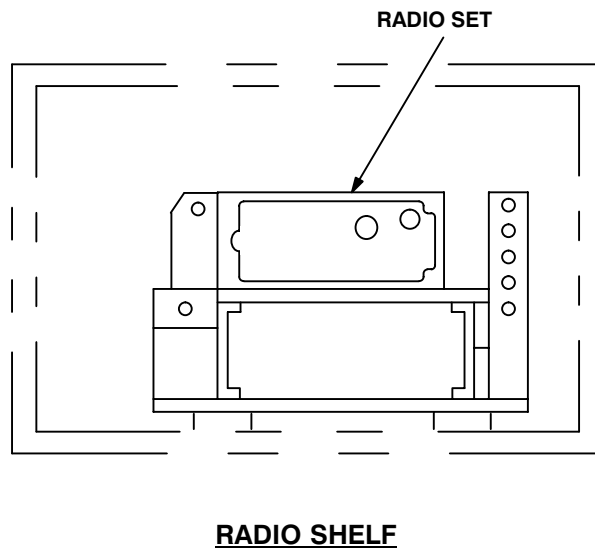

Figure 5-1 (2). MK and Radio Installation: Radio Equipment Locations
5.1.1 Installation of Antenna Base. Use the following procedures to install antenna base. See Figure 5-1 (1) for location. Remove ground strap from antenna base(s).